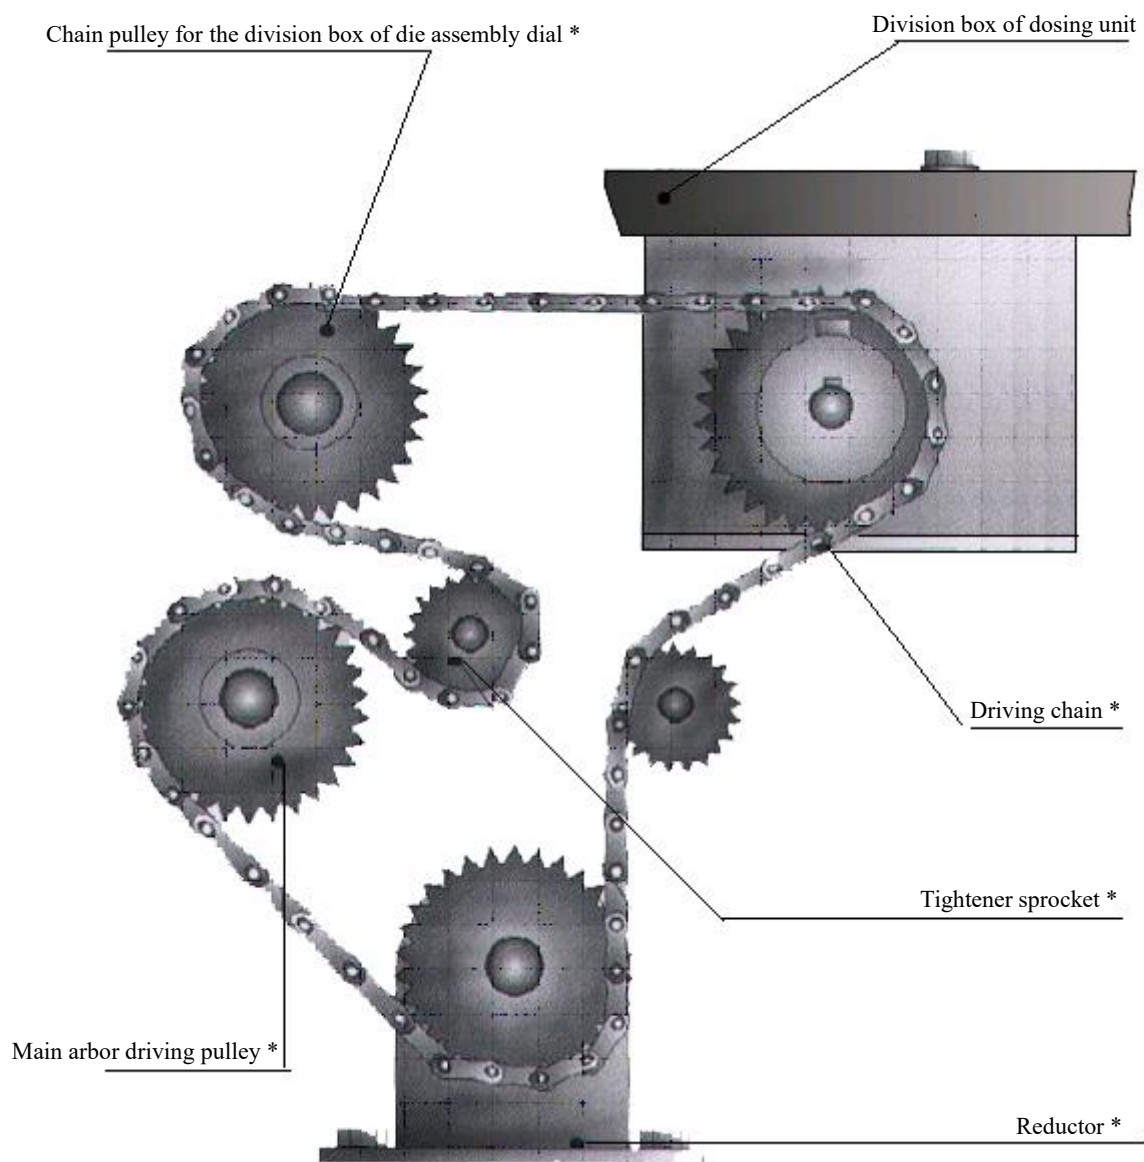

Fig. 32 Schematic Diagram of Driving Chain
5.2.14 Adjustment of driving chain (refer to Fig. 32)